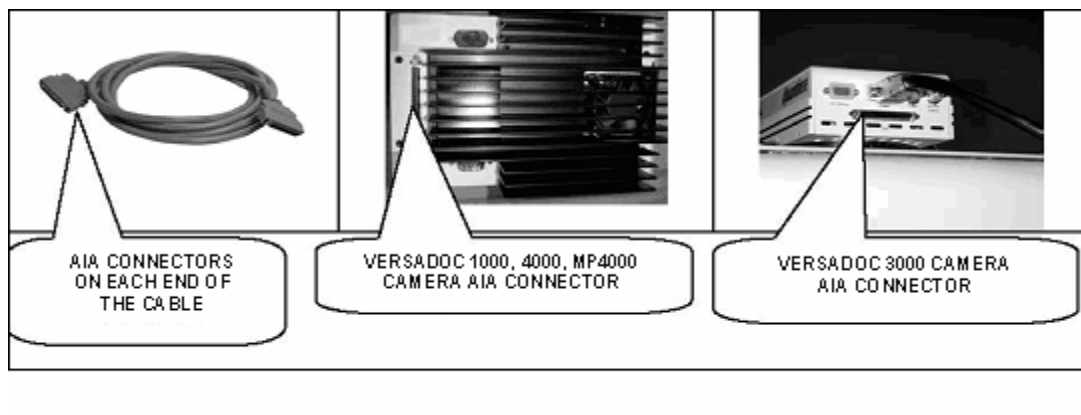

Figure 3.4. AIA cable connection.
1. Connect the AIA cable (Part #800-0247) to the AIA port on the camera (Figure 3.4). Push the cable to the connector such that it clicks and snaps in place properly.